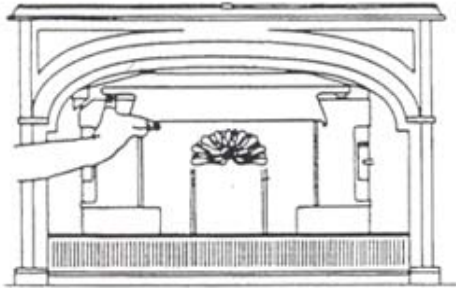

Fig. 25 Removing the Throat Hood
1. Remove the throat hood from the fireback by swinging it upward and then sliding it to either side (**Fig. 25**).